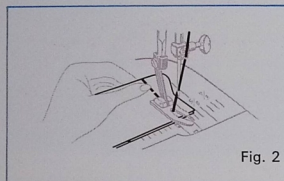

Fig. 2
2. Remove your fabric gently with fingers holding end of stitching. (Fig. 2)